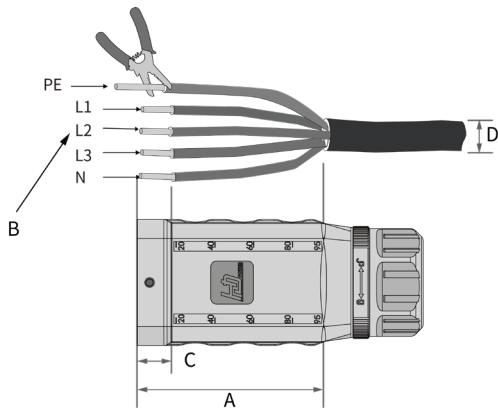

Fig. 16. AC leads through the cable and strip the insulation from the AC cables
6. Strip the insulation from individual wires for L1 / L2 / L3 / N and PE (ground) so that the strand and insulation can be pressed into core end terminal (see Fig. 16). The PE conductor must be 5 mm longer than the L and N conductors.